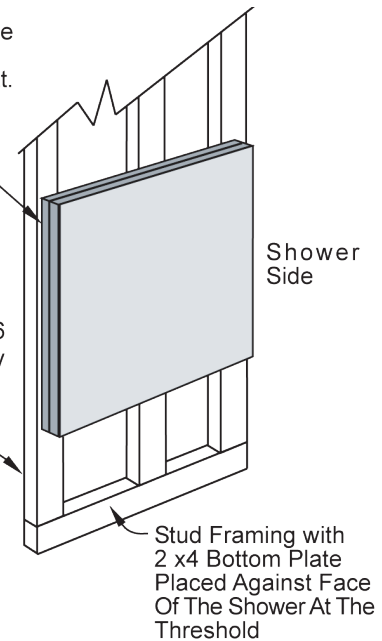

Figure 2
3. Factory wood backing is provided inside the wing wall for field installation of a fold up seat. If field installing a seat to the wing wall, Praxis recommends using wood 2 x 6 studs to support the wing wall. Metal studs may be used in other framing locations, other than the wing wall. Praxis is not responsible for structural integrity if 2 x 6 wood studs are not used for the wing wall. (See figure 2)
Locate and attach the studs to the floor, and to the top structure of the shower framing structure. The framing for the wing wall should tie in with the top framing above the shower: Keep stud work clear of the vertical flange of the shower: Provide so that top flange on the wing wall may be attached to the studs. Add wood between studs and wing wall backing if required. Fasten the components together as indicated in figure 2.